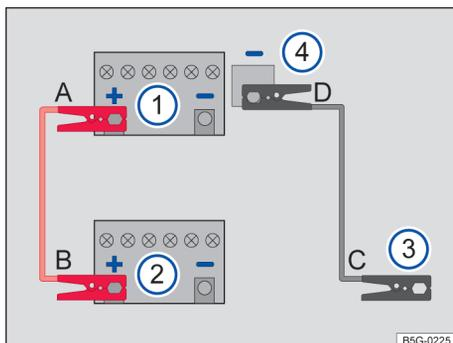

Fig. 161 Diagram for attaching the jumper cables: Dead battery ① and booster battery ②.
Key to **fig. 161**:
which follow the letters shown in the illustration → **fig. 161 A – B – C – D**.
3. Attach one end of the **red** jumper cable **A** to the **positive battery terminal** → **fig. 161 ①** on the dead battery: ① → ⚠️.
4. Attach the other end of the **red** jumper cable **B** to the **positive battery terminal** → **fig. 161 ②** on the good battery (booster battery): ②.
5. Attach one end of the **black** jumper cable **C** to the **negative jump-start terminal** of the vehicle **providing** assistance: → **fig. 161 ③** (→ page 234, *Jump-start terminal*), or if that is not available, to a bare metal part of the vehicle **providing** assistance. This part should be connected directly to the engine block.
6. Attach the other end of the **black** jumper cable **D** to the **negative jump-start terminal** of the vehicle **receiving** assistance → **fig. 161 ④** (→ page 234, *Jump-start terminal*), or if that is not available, to a bare metal part of the vehicle **receiving** assistance. This part should be connected directly to the engine block. Attach the clamp to a point that is as far away as possible from the dead battery ① → ⚠️.